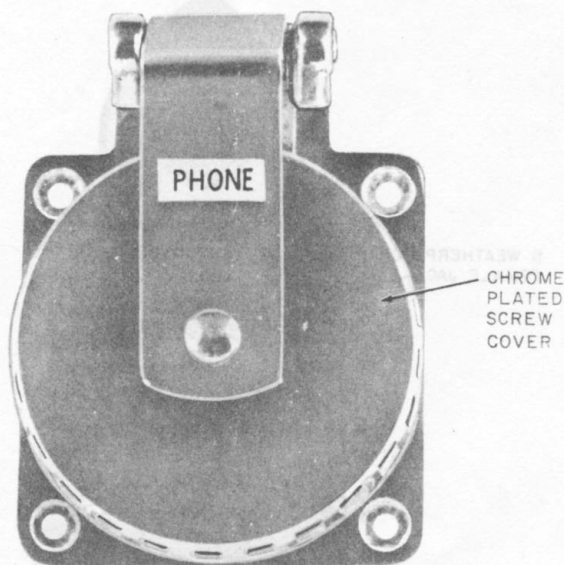

Fig. 12—B Waterproof Male Jack (Front View)
- Jack, Male, Waterproof, B (for use on boat, Fig. 12 and 13)
2.08 The B waterproof male jack (Fig. 12 and 13) is mounted on a boat and receives the female plug of the weatherproof cord to provide service to boats. It is chrome plated with a hinged
- One B waterproof male jack (mounted on boat to accept cord, Fig. 12 and 13)